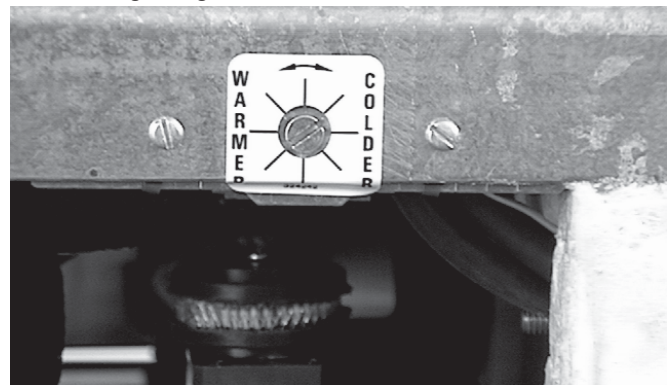

Figure 28. Temperature Control Cab
- B. Use a small screwdriver to adjust the temperature control. Turn counterclockwise for a warmer temperature and clockwise for a colder temperature. It will take about an hour for the cab temperature to change. Figure 28.